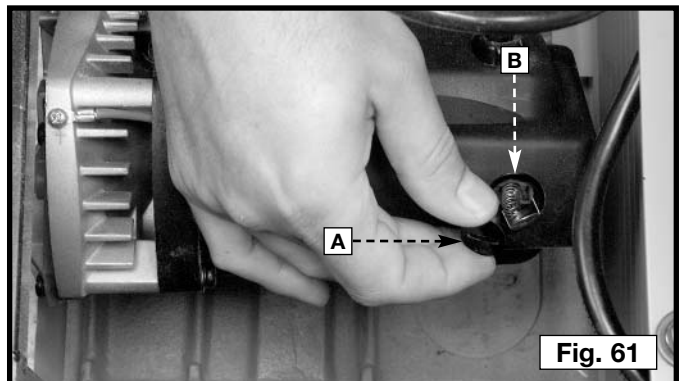

Fig. 61
3. Remove the brush cap (A) Fig. 61 and brush (B) for inspection. When the carbon on the brush (B) is worn to 3/16" or if either the spring or shunt wire is burned or damaged, replace both brushes. If the brushes are found serviceable after removing, reinstall them.
4. To inspect the other brush, remove the table insert and saw blade. The other brush is located 180° from the brush at (A) Fig. 61.